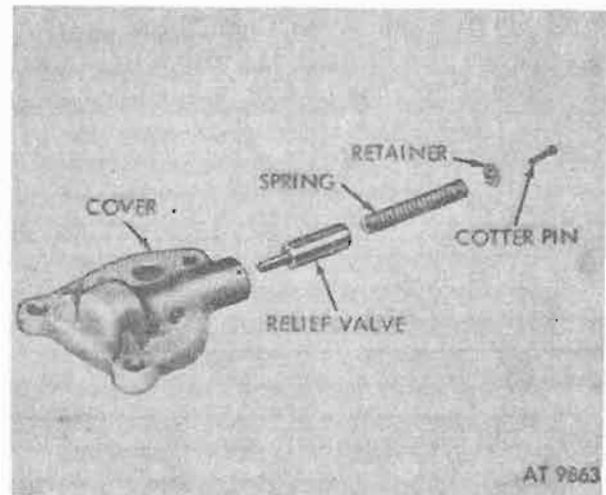

Figure 4-185. Oil pump pressure relief valve.
b. Remove Pump Cover Assembly. Remove hex-head capscrew and washer assembly holding oil pump cover assembly to oil pump body and lift off cover assembly (fig. 4-185).
cotter pin from cover assembly and remove retainer, spring, and plunger (fig. 4-185).